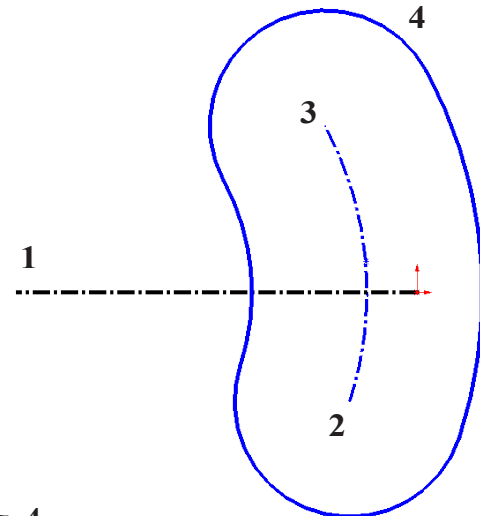

Fig. 3
Step 5. Sketch a centerpoint arc slot centered at the left endpoint of centerline and to the right, **Fig. 3**. To sketch slot, click left endpoint of centerline to specify centerpoint of the arc. Move cursor down and to left of Origin to specify the radius of the arc and click. Move cursor up to specify the length of the slot and then click. Then, move cursor to create width of the slot and click.